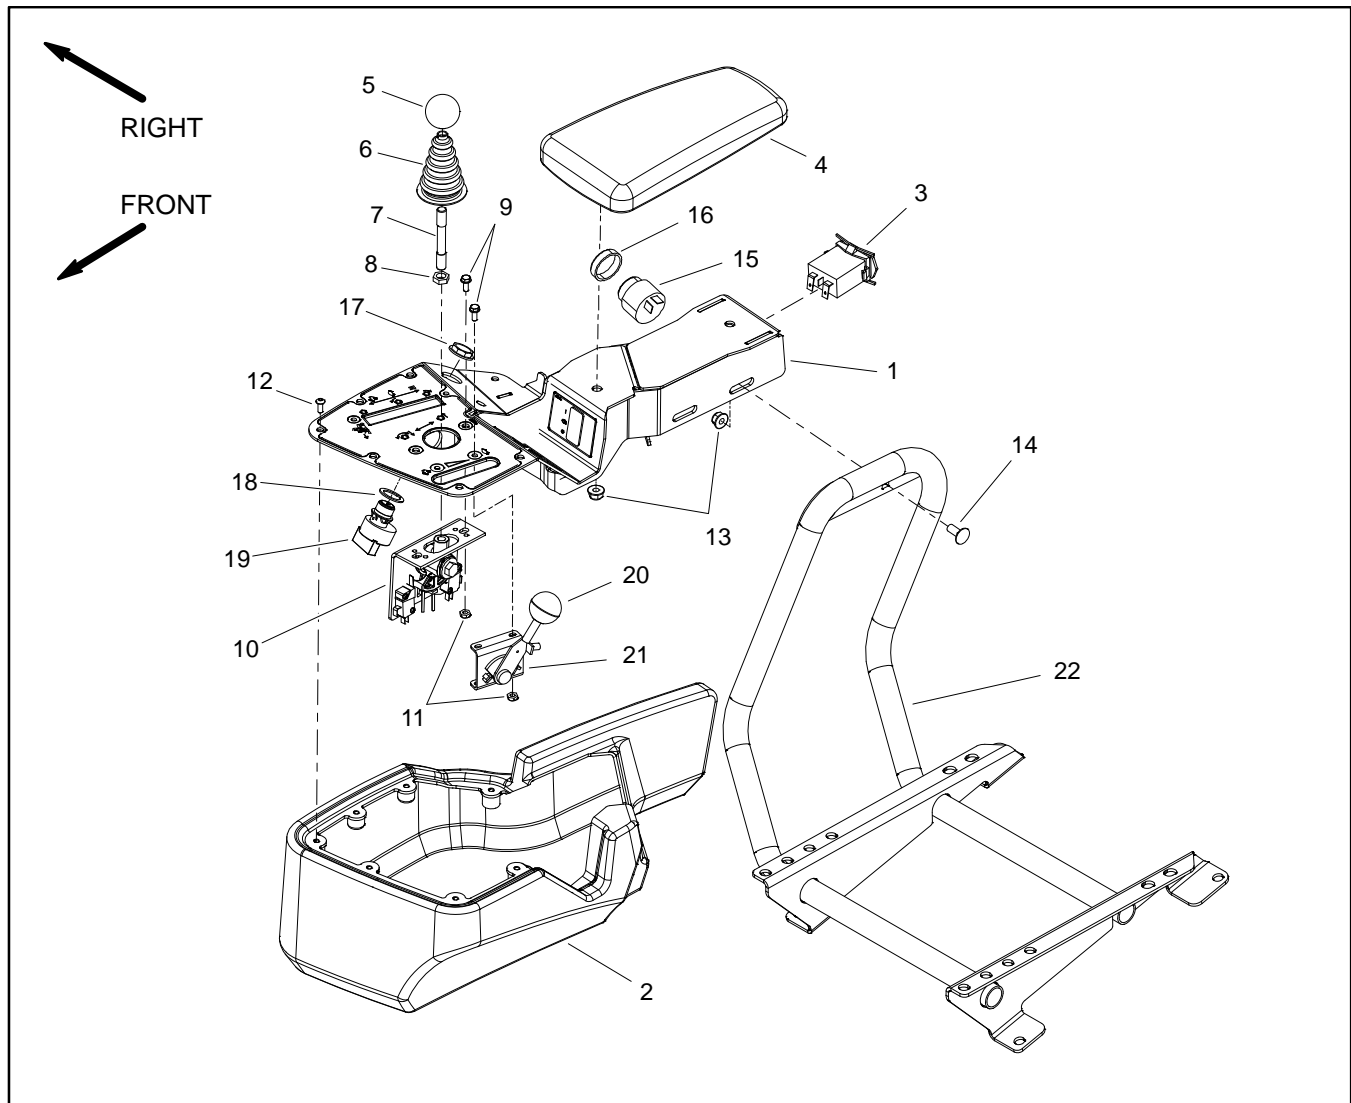

Figure 13
Disassembly (Fig. 13)
2. Remove screws (item 12) that secure console cover (item 2) to console. Lower cover to allow access to console components.
3. Remove components from control console as needed using Figure 13 as a guide.
Assembly (Fig. 13)
3. Install all removed components to control console using Figure 13 as a guide.
4. Position console cover (item 2) to console and secure with screws (item 12).